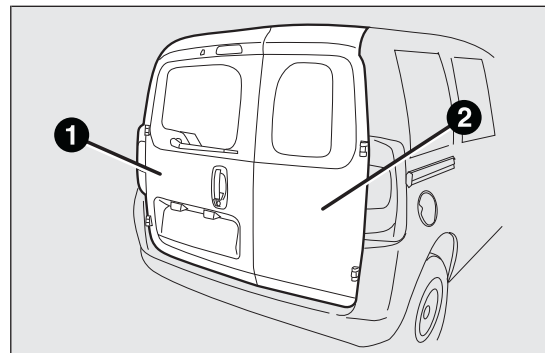

fig. 64
The double rear swing doors fig. 64 are fitted with a spring-loaded system that stops them when they have opened to an angle of approximately 90 degrees.
*When closing, shut the right-hand door 2 fully fig. 64 before you close the left-hand door 1 fig. 64. Never shut the two doors at the same time.*